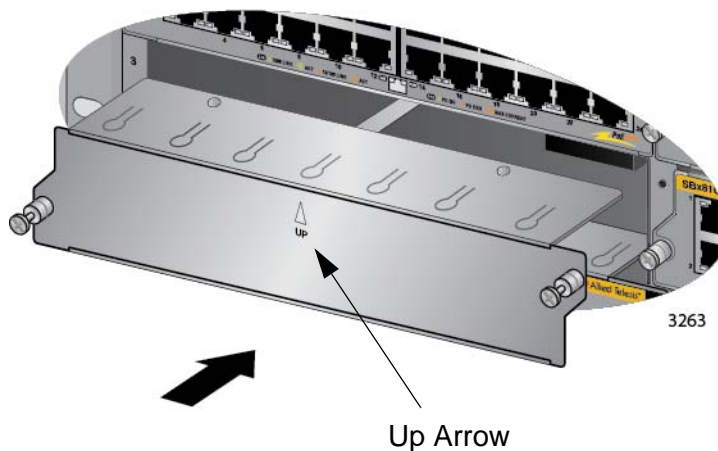

Figure 76. Installing a Blank Slot Cover
1. Position a blank slot cover over an unused slot, as shown in Figure 76. The up arrow on the panel must be pointing up.